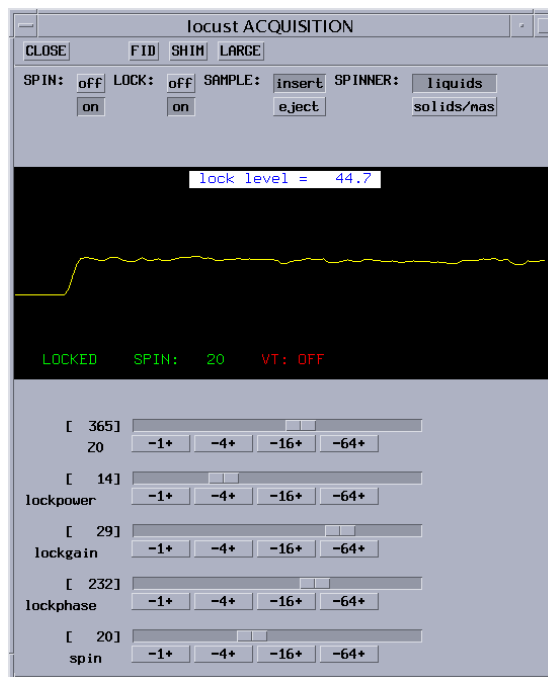

Figure 33. Spin Information in LOCK Display (`acqi` Program)
- In the LOCK display of the Acquisition window (`acqi` program), the actual spin rate is shown below the lock signal (in green type if regulated, in yellow if not regulated, or in red if off), see Figure 33.
The LOCK display appears with the following spin-related information, see Figure 33: